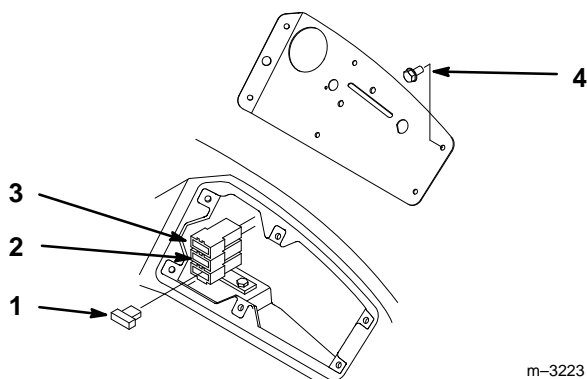

Figure 35
1. Remove dash panel screws to gain access to fuse holder (Fig. 35).
2. To replace fuses pull out on the fuse to remove it (Fig. 35).